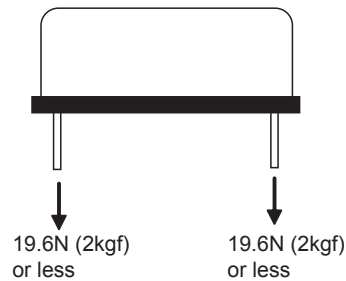

Fig.6.1 Stress onto Pins
- Applying excessive stress to the input or output pins of the power module may damage internal connections. Avoid applying stress in excess of that shown in Fig. 6.1.